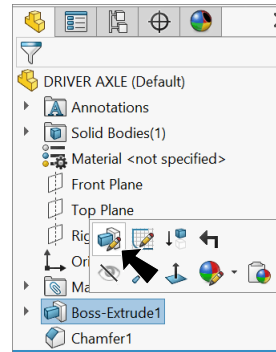

Fig. 1
Step 1. Click **Boss-Extrude1**  in the Feature Manager and click **Edit Feature**  in the context toolbar, **Fig. 1**.